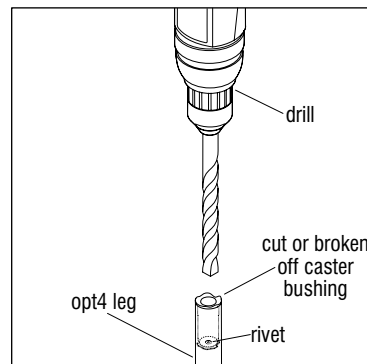

Figure 2
3. Then, using a drill and  $\frac{3}{8}$ " drill bit, drill out the steel rivet that attaches the caster bushing body to the retainer clip (Figure 2).